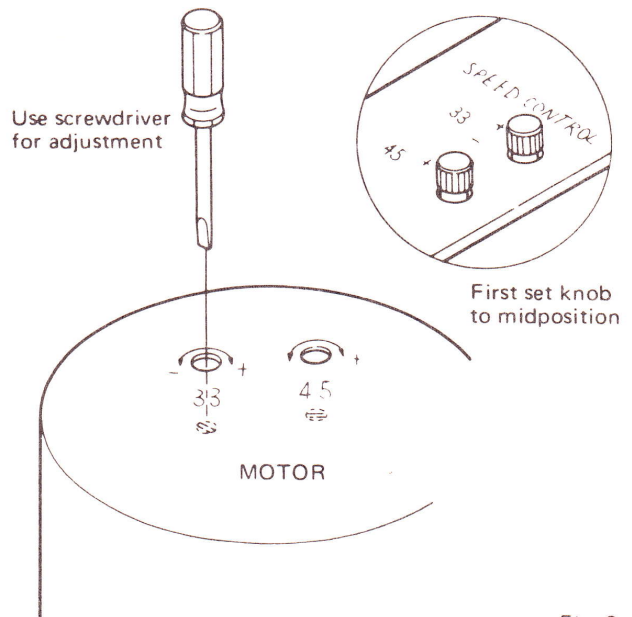

Fig. 3
3. While observing the edge of the turntable platter with a strobe, adjust screws inside the motor as shown in Fig. 3.